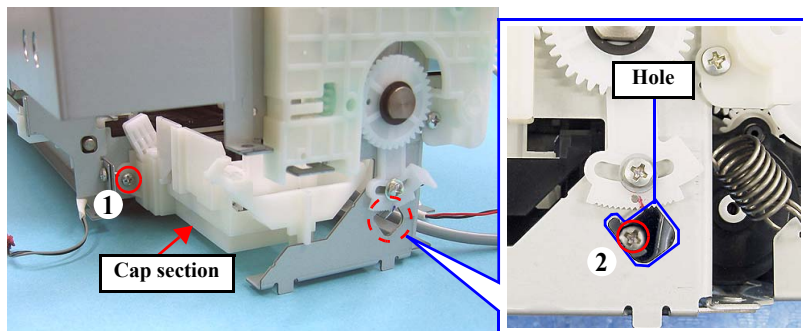

Figure 4-68. Removing the Ink System (1)
- Tighten the screws in the order given in Fig.4-68.